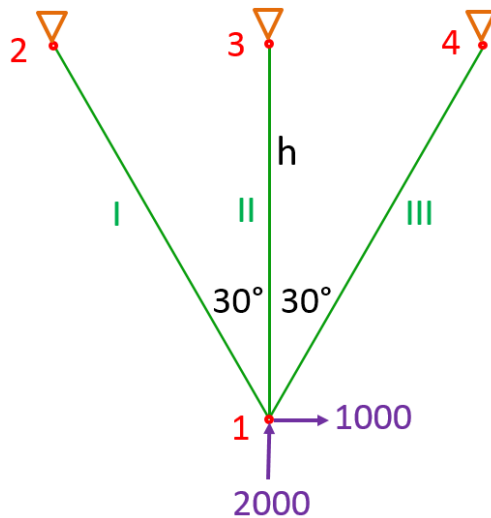

Figure 1: Three-truss problem
4. Consider the first plane three-truss problem in Fig. 1, which was solved in class. All elements have the same cross-sectional EA .